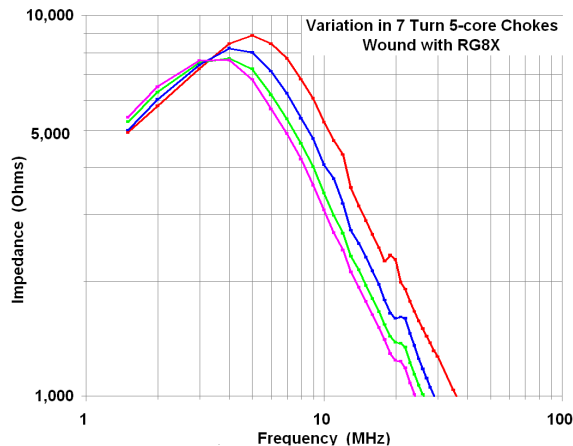

Fig 42 – Variation of chokes with winding style, coax outer jacket material
**Your Mileage Will Vary** Fig 42 shows the variation in impedance that can occur based on the details of how the choke is wound, and on the jacket material. The magenta curve is for a choke whose turns are tightly bunched together both inside and outside the toroids. Both the stray capacitance and the inductance of the coax are maximized (for a given number of turns and winding diameter). The other three curves are for chokes whose turns are intentionally spread wide apart outside the toroids. One of them uses somewhat larger diameter turns and a different type of RG8X. Capacitance is a function of spacing, geometry, and the dielectric material. The diameter of the shield, as well as the thickness and permittivity of the jacket material all can cause variations in the